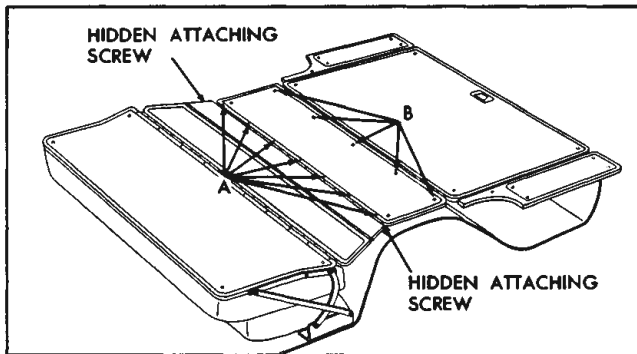

Fig. 18-10 Compartment Floor Panel Assembly
2. Remove rear floor filler panel to rear seat pan attaching screws as shown at "A" in Fig. 18-10.
- NOTE: Attaching screws are located at each end of panel (See Hidden Attaching Screw, Fig. 18-10).
4. Remove floor panel to spare tire cover hinge support panel attaching screws, shown at "B", Fig. 18-10 and remove compartment floor panel assembly from body.